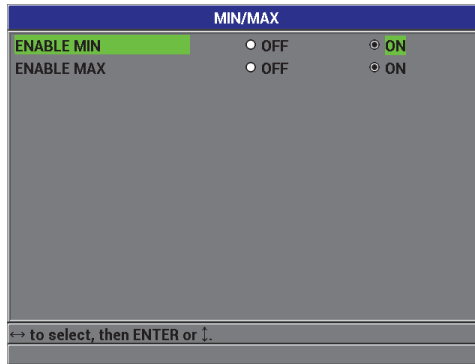

Figure 5-4 The MIN/MAX screen
2. In the **MIN/MAX** screen (see Figure 5-4 on page 95):